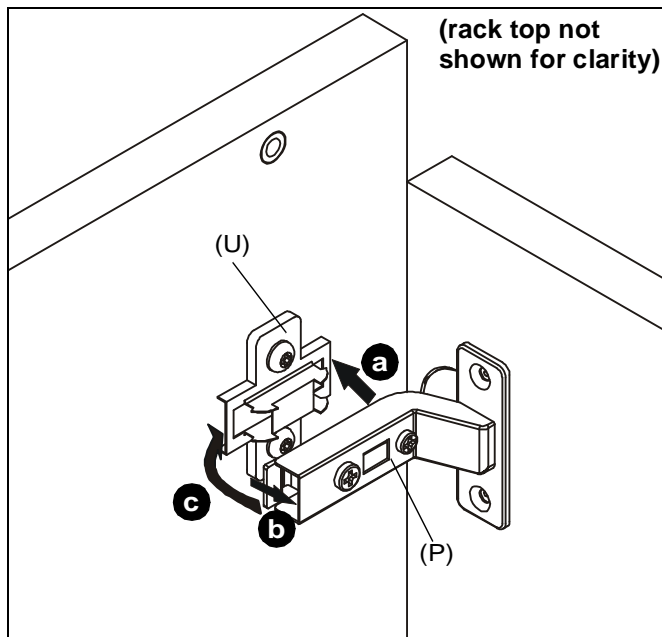

Figure 10
19. Connect clip-on hinges (P) to mounting plates (U) by following these three steps:
- a. Place hinge on mounting plate making sure front tabs latch onto front end of plate. (See Figure 10)
- b. Pull up lever on end of hinge. (See Figure 10)
- c. Wrap hinge around plate and release lever. (See Figure 10)